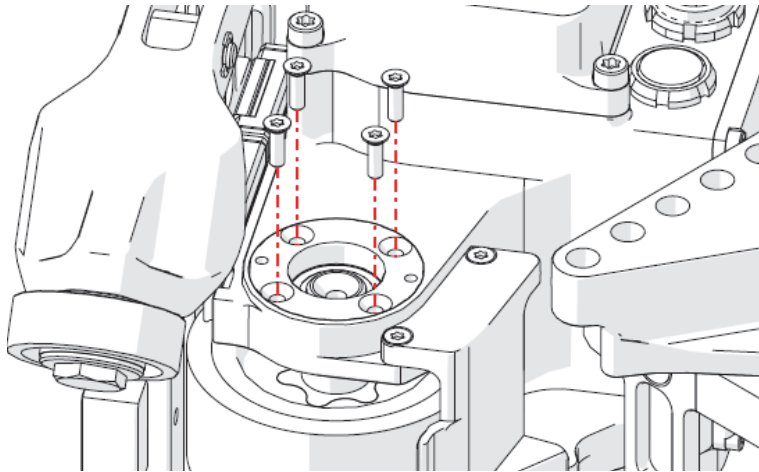

Figure 2-12 Remove bearing housing screws
13. Using a T10 Torx driver, remove the four screws from the bearing housing (see Figure 2-12 on page 91).